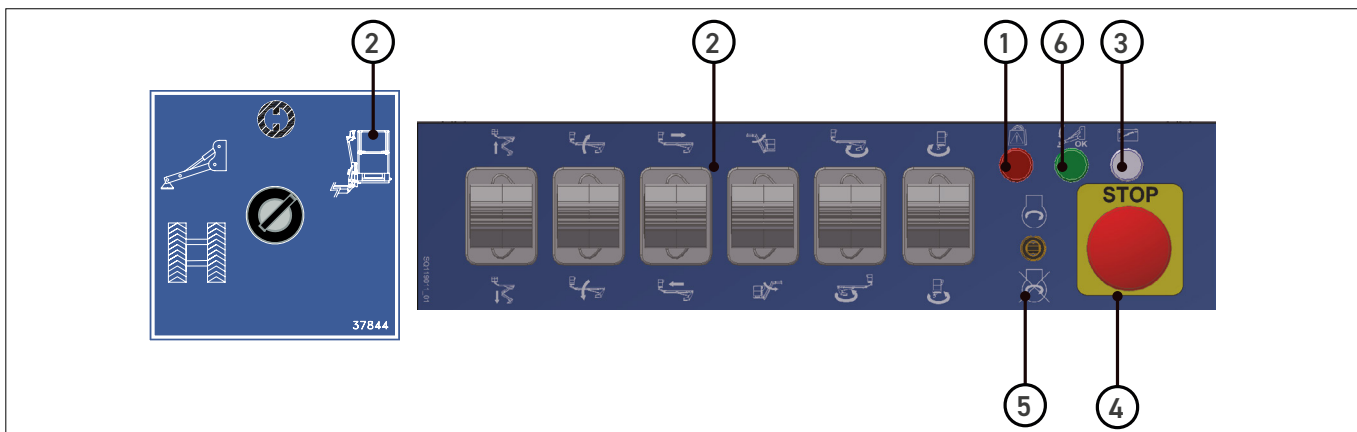

FIG. 31 (Start-up procedure for the mobile elevating work platform - MEWP into)
- 2) Insert the key into the selector switch (FIG. 31 - Ref. 2) and turn it to the "Work platform" position.
- 4) Check that the light (FIG. 31 - Ref. 3) indicating that the control panel on the platform is switched on is lit;
- 5) Check that the light (FIG. 31 - Ref. 6) indicating that the boom can be raised is lit.
- 7) Move the boom by gradually operating the proportional levers (FIG. 31 - Ref. 2)
- 9) You can switch the engine off and on again (FIG. 31 - Ref. 5)
Switch off the endothermic engine by keeping the selector (FIG. 31 - Ref. 5) on the control console in the work platform in the down position.
- 1) Keep the selector (FIG. 31 - Ref. 5) on the control console in the down position.